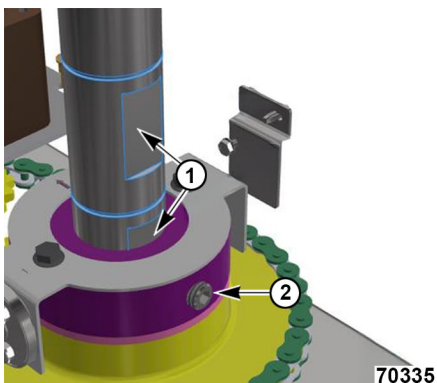

Fig. 97
- 10) Verify rotation shaft flat (1, Fig. 97) is aligned to set screw on set collar (2, Fig. 97).